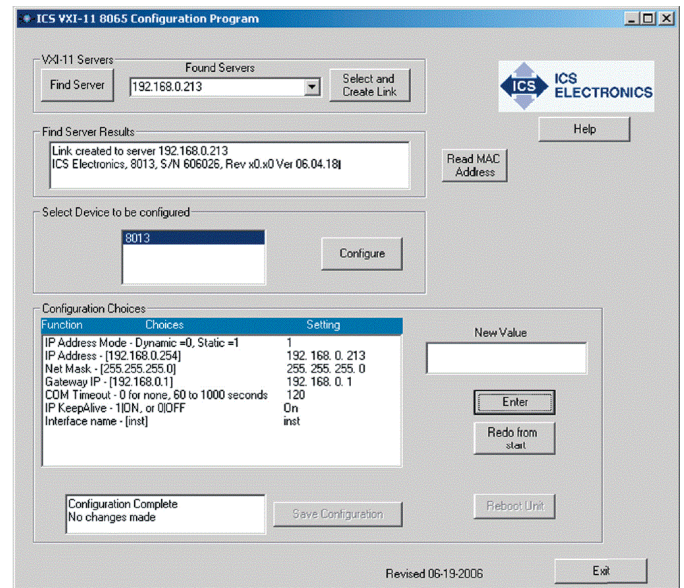

Figure 4-8 VXI-11 Configuration Utility (Showing all configuration choices with no changes)
4. Run the VXI11\_config program. The Configuration Utility opens a window as shown in Figure 4-8. Initially only the Find Server, Help and Exit buttons are enabled on the program window. The other buttons will be enabled as you advance through the program.
9. Repeat step 8 for each configuration parameter. Figure 4-8 shows the VXI-11 Configuration Utility after all parameters have been entered for a Model 8003. Click the Redo From Start button if you need to start over or if you want to change any of the prior settings